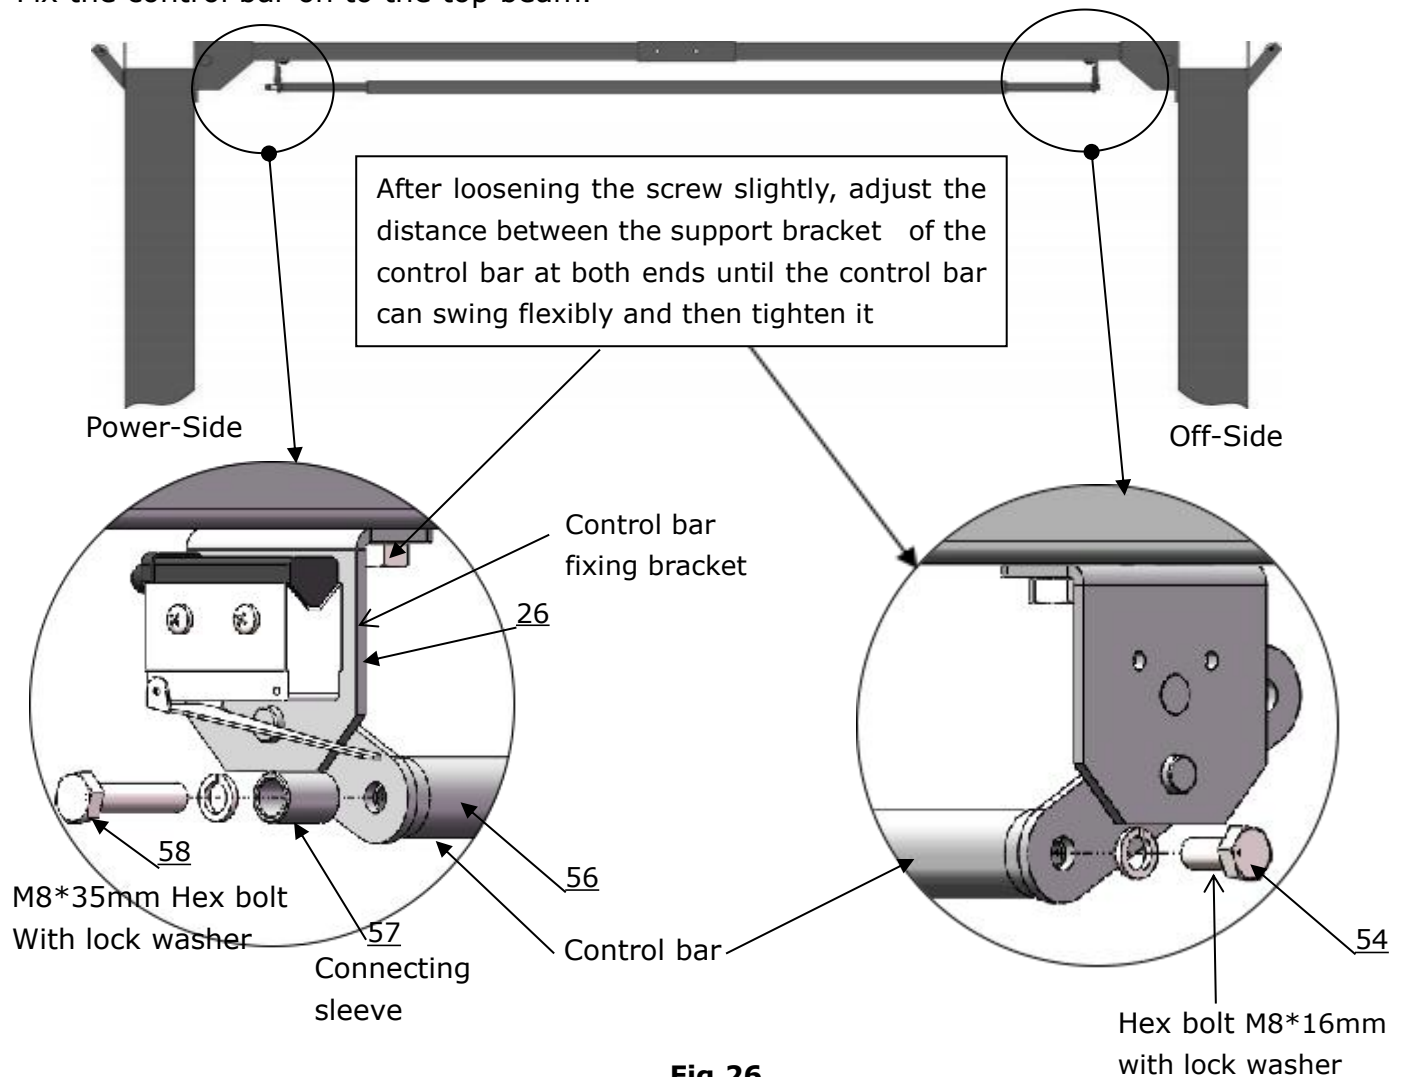

Fig. 26
I. Installing the limit control bar and limit switch (See Fig. 26).